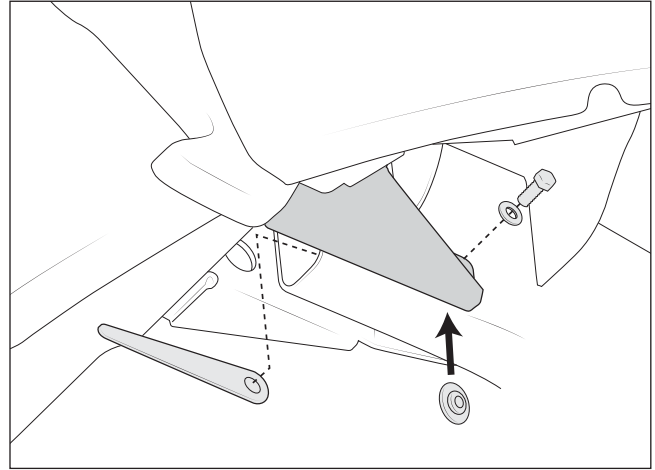

Figure 24
NOTE: When tightening the corners, tighten the tow hook bolts first. Torque ALL bolts to 70 lb-ft. Torque compatibility hardware to 172 lb-ft. On trucks without compatibility beam holes, insert machined reducer bushings BEFORE tightening hardware (see fig. 24).
4. Use the supplied 3/8" bolt, washer, and flag nut in this location (fig. 24). Torque to 37 lb-ft.